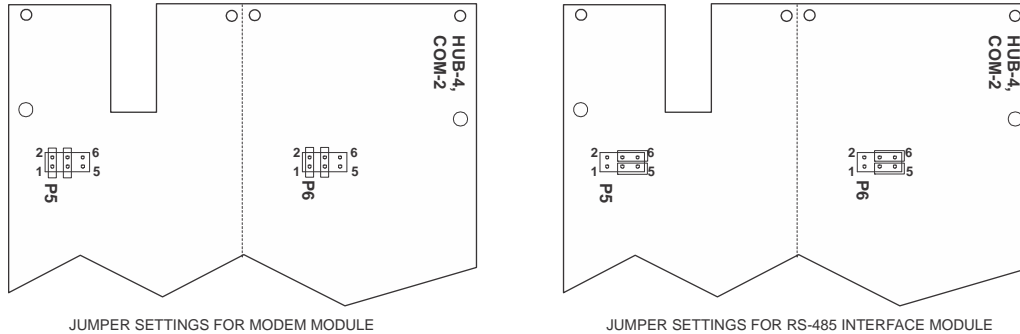

Figure 3
- HUB-4, COM-2 Board:** Make sure that the jumper settings are correct for the desired application (either Modem Block or RS-485 Interface Module). Refer to Table 2 and Figure 3 for the correct placement of jumpers on P5 and P6.